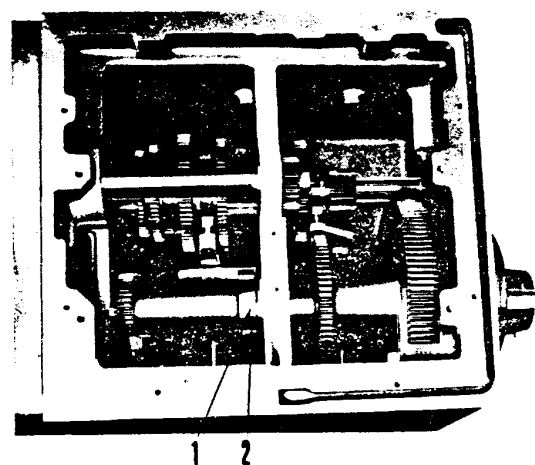

Fig 19
**Headstock Spindle Bearing Adjustment (fig. 19)**